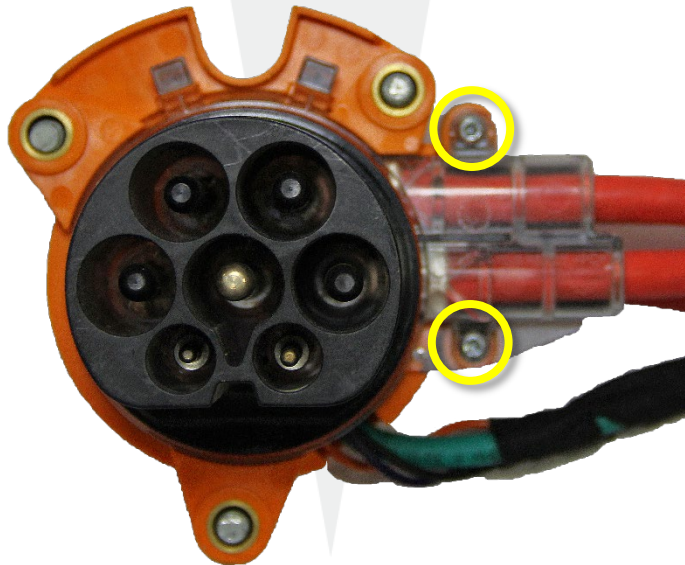

Figure 21
3. Remove the screws (x2) that secure the pin carrier (clear plastic) to the pin carrier cap (orange plastic) (Figure 21).